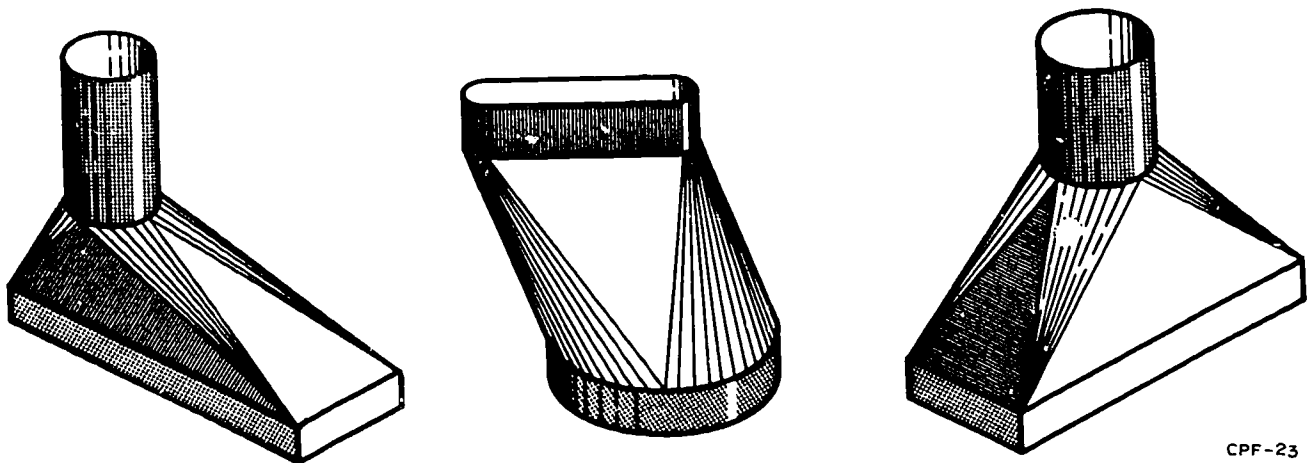

Figure 1-82. Transitions.
**Triangulation Layout Method.** You are probably beginning to realize that, regardless of how complicated the component may be, you can develop a pattern for it by applying the principles in this section (parallel line, radial line, or triangulation methods). There are many irregular shapes, such as transitions and offsets, in sheet metal work that have patterns that cannot be developed by the methods already explained. Examples of transitions are shown in figure 1-82. Notice that lines drawn on these irregular shapes do not run parallel with each other or meet at a common point. Instead, the surface is divided into a series of triangles that slope in many directions. Finding the true lengths of these sloping triangles makes it possible to develop the patterns.